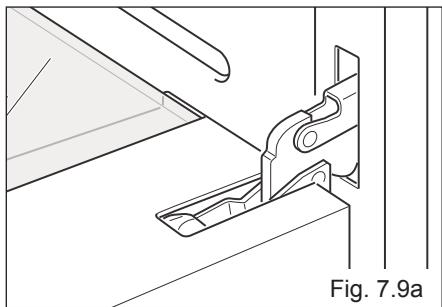

Fig. 7.9a
- Open the door to the full extent (fig. 7.9a).
- Unlock the oven door by opening it completely and closing the lever "A" on the left and right hinges (fig. 7.9a).